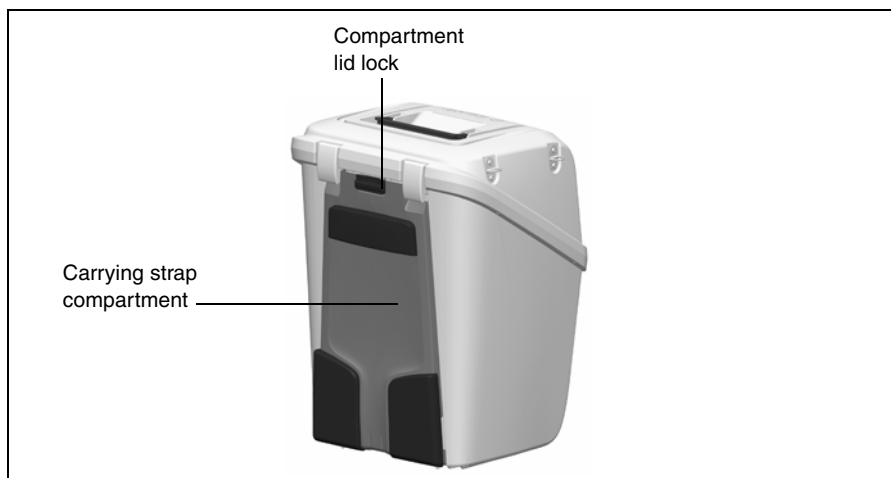

Figure 2.2 Instrument case with the carrying straps inside the compartment
1. Press the compartment lid lock downward and open the carrying strap compartment. See figure 2.2